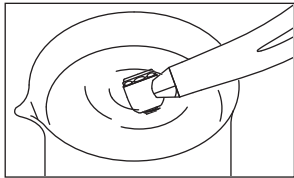

Fig. 7
- 3) Rotate the handpiece and immerse half of the handpiece head. (Fig. 7)